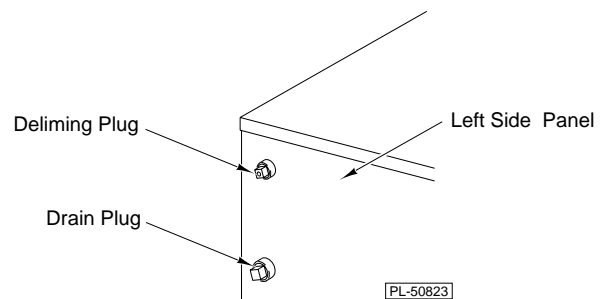

Fig. 5
**ALTERNATE STEP 2.** If the Deliming Plug is outside on the left side panel (Fig. 5), remove the top plug and turn the main power switch ON.